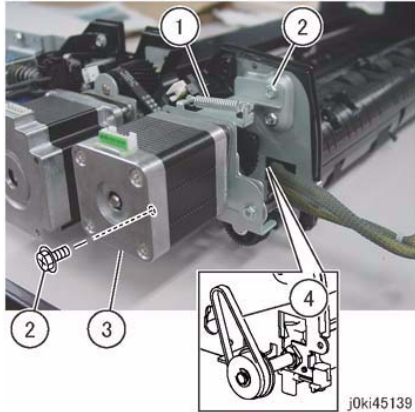

Figure 2 DADF Reg Motor Bracket Removal
11. Remove the DADF Registration Motor and the Bracket. (Figure 2)